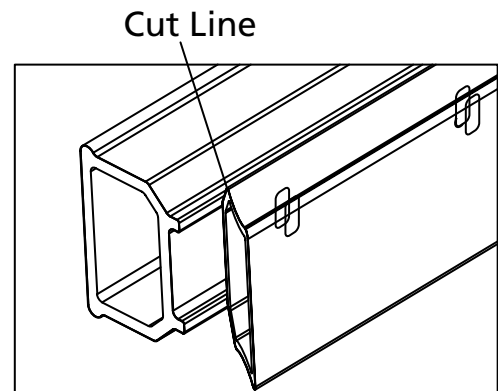

Figure 27
6. Place the top rail next to the bottom rail with the marked ends together. Using the bottom rail as a guide, center the routed holes in the top rail with the routed holes in the bottom rail. Mark the cut lines on the top rail (Figure 27).